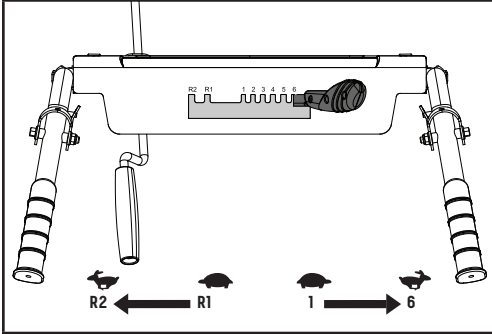

Figure 17
Your snowblower has 6 forward speeds and 2 reverse to regulate forward and backward motion (Fig. 17).
2. Move the speed-control lever to the gear (either forward or reverse) that you require (Fig. 17).